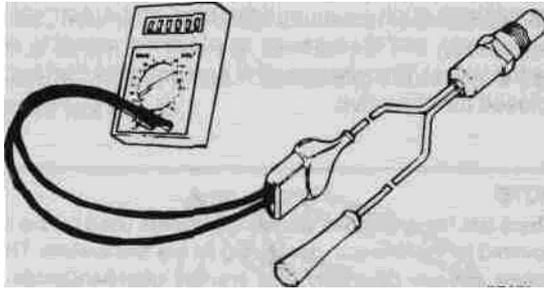

Fig. 22. Oxygen sensor heating coil resistance being measured (shown schematically).
3. If the sensor does not emit a fluctuating voltage, turn the engine off and check the sensor's preheater circuit. Disconnect the two-wire connector and check for battery voltage at the connector with the engine running. If voltage is not present, check the wiring to the preheater and check the preheater fuse. If voltage is present, check the preheater coil resistance. See Fig. 22. If any faults are found, replace the sensor.